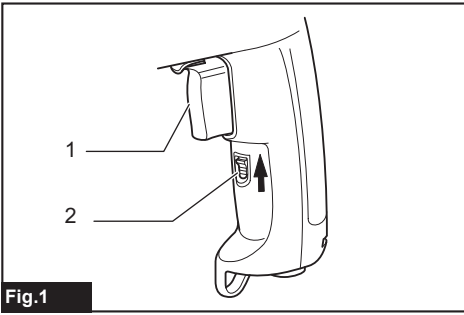

Fig.1
► Fig.1: 1. Switch trigger 2. Lock lever